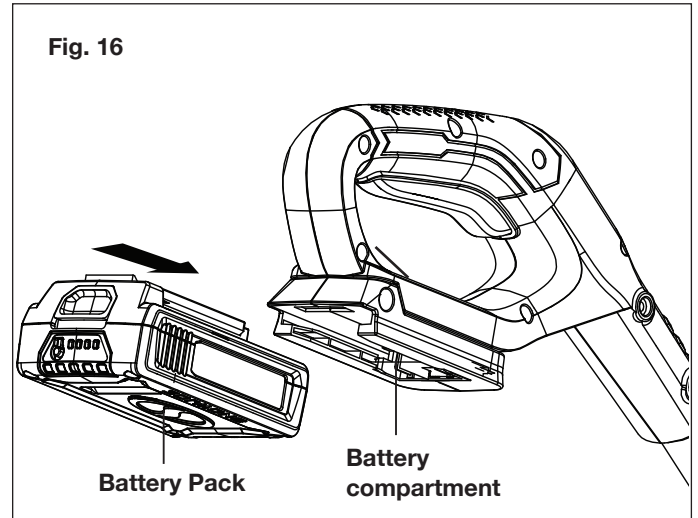

Fig. 16
1. Insert the battery in the battery compartment (Fig. 16).